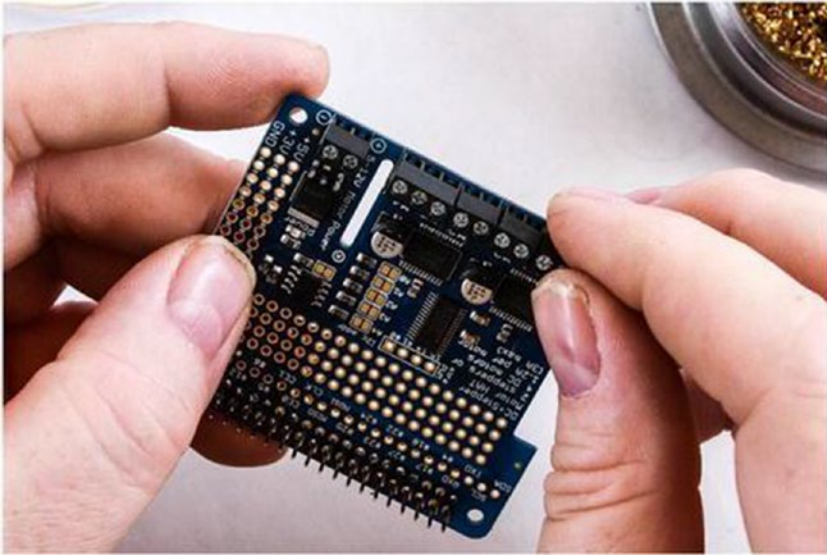

Figure 6-11. *Adding the terminal blocks to the circuit board*
8. Mount the screw terminals onto the board (see Figure 6-11).